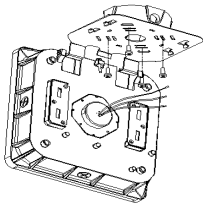

FIG.3
STEP 1. Fix the mounting plate onto the junction box FIG.3
2. Hang the light body onto the mounting plate and wiring FIG.3